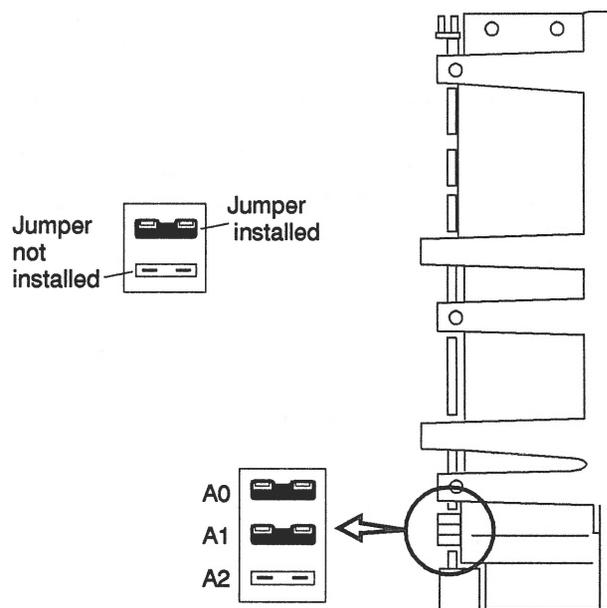

Figure 4-4 SCSI Target Address Jumper Settings
2. Compare the address jumper settings on the drive to the settings shown in Figure 4-4.